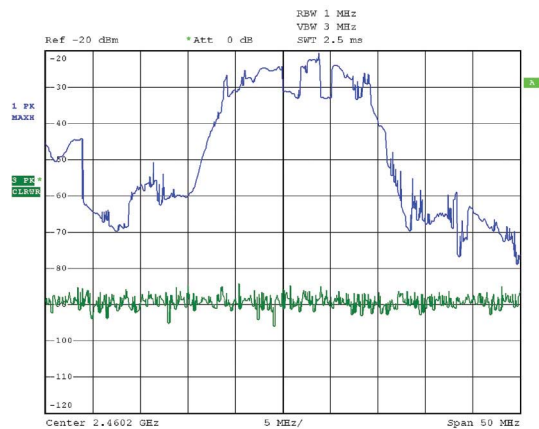
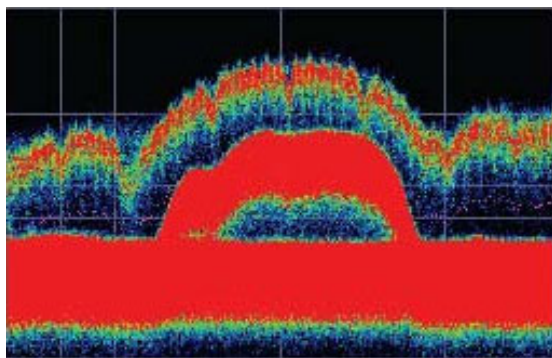

Figure 2
Figure 3
Compare the display of a traditional swept spectrum analyzer (Figure 2) and that of a real-time signal analyzer with a DPX display (Figure 3). The signal captured is a typical WLAN interchange between a nearby PC and a more-distant network access point (AP). The laptop signal is nearly 30 dB stronger than the AP's signal because it is closer to the measuring antenna.
The traditional swept spectrum analyzer display, Figure 2, uses line traces that can show only one level for each frequency point, representing the largest, the smallest or the average power. After many sweeps, the Max Hold trace shows a rough envelope of the stronger laptop signal. +Peak detection was selected for the other trace in an attempt to capture the weaker but more frequent AP signal, but the bursts are very brief, so the likelihood of seeing one in any particular sweep is small. It will also take a long time to statistically capture the entire spectrum of a bursted signal due to the architecture of the swept spectrum analysis.
The DPX display, Figure 3, reveals much more insight on the same signal. Since it is a bitmap image instead of a line trace, you can distinguish many different signals occurring within each update period and/or different version of the same signal varying over time. The heavy band running straight across the lower third of the graph is the noise background when neither the laptop nor the AP is transmitting. The red lump of energy in the middle is the ON shape of the AP signal. Finally, the more delicate spectrum above the others is the laptop transmissions. In the color scheme used for this demonstration (“Temperature”), the hot red color indicates a signal that is much more frequent than signals shown in cooler colors. The laptop signal, in yellow, green and blue, has higher amplitude but doesn't occur nearly as often as the AP transmissions because the laptop was downloading a file when this screen capture was taken.